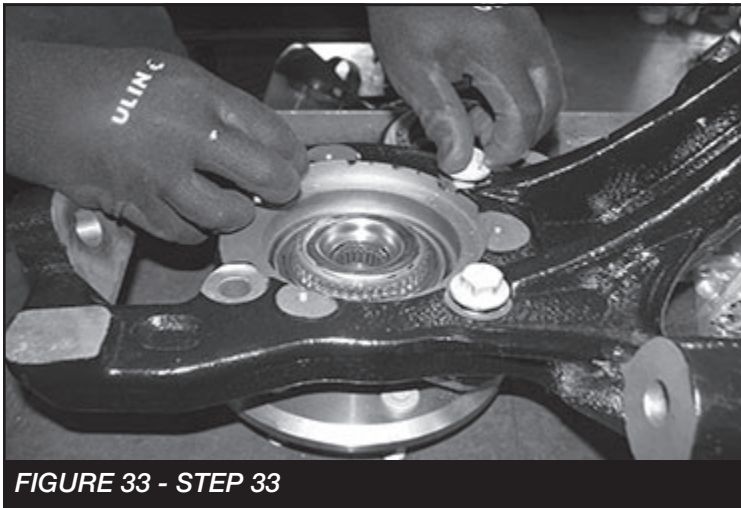

FIGURE 33 - STEP 33
33. Locate the Fabtech driver side spindle (FT30616D) and install the factory hub. Torque the four 14mm bolts to 160 ft.- lbs. **SEE FIGURE 33**